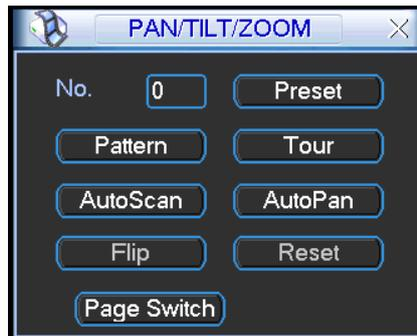

Figure 6-6
In \_Figure 6-2, click page switch button, you can see an interface as in \_Figure 6-6.
**Note:** The following setups are usually operated in the \_Figure 6-2, \_Figure 6-5 and \_Figure 6-6.
In \_Figure 6-6 please input preset number in the No. blank, and click preset button.
In \_Figure 6-6, input patrol number in the No. blank and click patrol button
In \_Figure 6-6 input mode value in the No. blank, and click pattern button.
In \_Figure 6-6, click auto scan button, the system begins auto scan. Correspondingly, the auto scan button changes to stop button.
In \_Figure 6-6, click page switch button, you can see an interface is shown as below. See \_Figure 6-11. Here you can set auxiliary function.